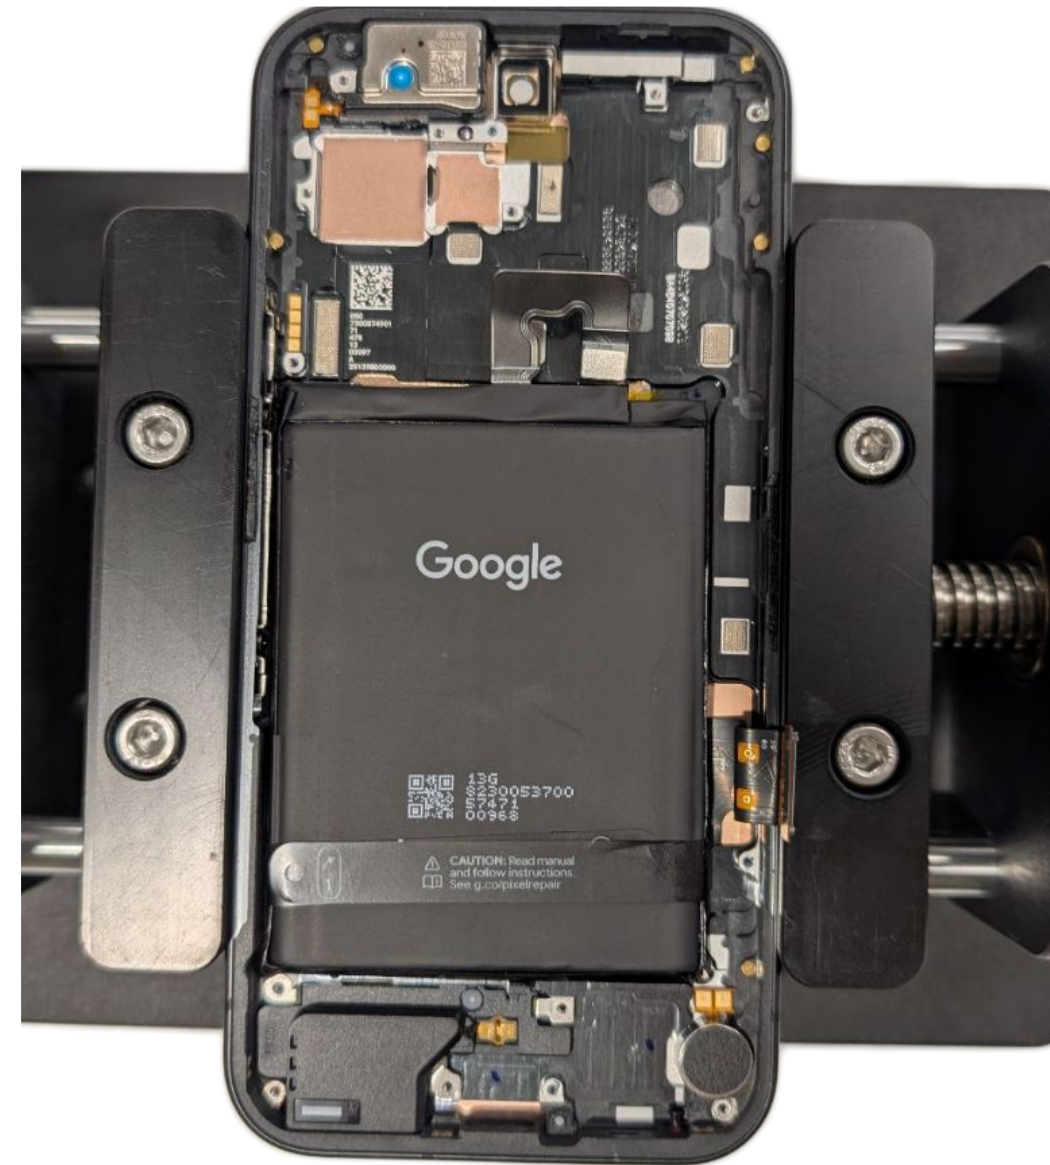

Fig 1
1. Secure the device on the holding fixture as shown in Fig 1.